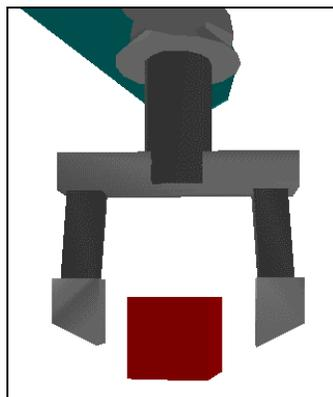

Figure 2-7
- 2 Open the gripper. Take and carefully hold a round or square block between the gripper fingers as shown in Figure 2-7. Close the gripper on the block.